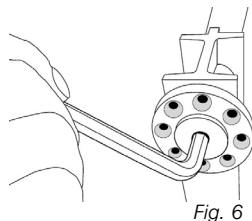

Fig. 6
2. Tighten both adjustment plates by 1 or 2 holes (Fig. 6).